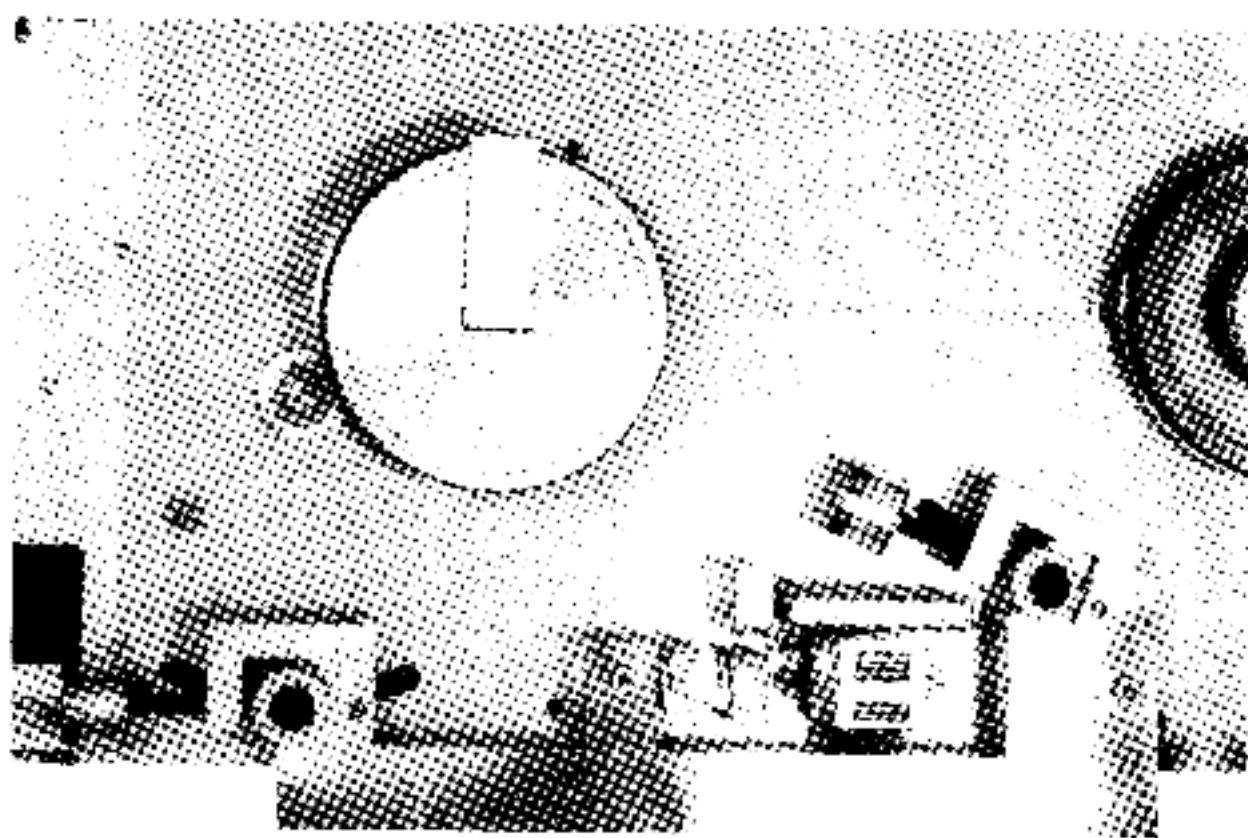

Figure 5-2 Use of Alignment Tool
- e. Mount the tape path alignment tool on the deck per Figure 5-2.
- g. Loosely clamp the roller guide in the tape path alignment tool (Figure 5-2).